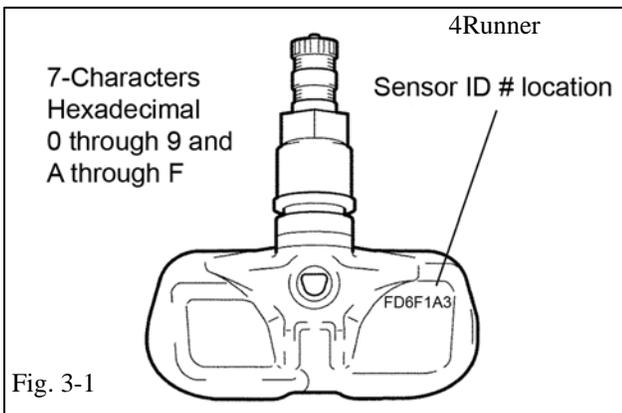

Fig. 3-1
- (a) If previously removed sensor is 20 degree sensor, proceed to step 3 (c). If previously removed sensor is 40 degree sensor (e.g. Tacoma styled steel wheels), you must install new 20 degree sensors into accessory wheels. When installing new 20 degree sensors, you **MUST** record sensor ID codes for all 4 wheels and register these 4 new ID codes (Fig. 3-1) with the vehicle ECU. Each sensor has a unique sensor ID code. The sensor ID code is a 7 or 8 character hexadecimal string comprised of numbers 0 through 9 and letters A through F. See Fig. 3-1 for example code and location.